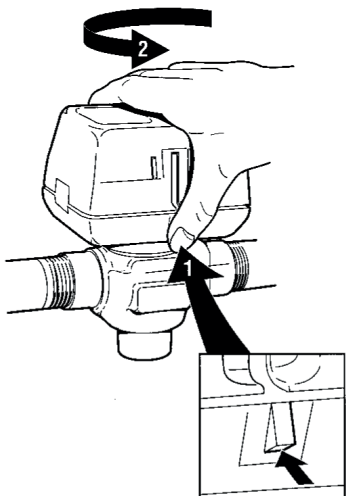

Fig. 5 Latch mechanism
- 2) The actuator head is automatically latched to valve (see figure 5). To remove, lift up on the latch mechanism located directly below the manual open lever. Press the actuator head down towards the body with moderate hand force and turn counter-clockwise by 1/8 turn (45 degrees) simultaneously. Lift the actuator head off the valve body.